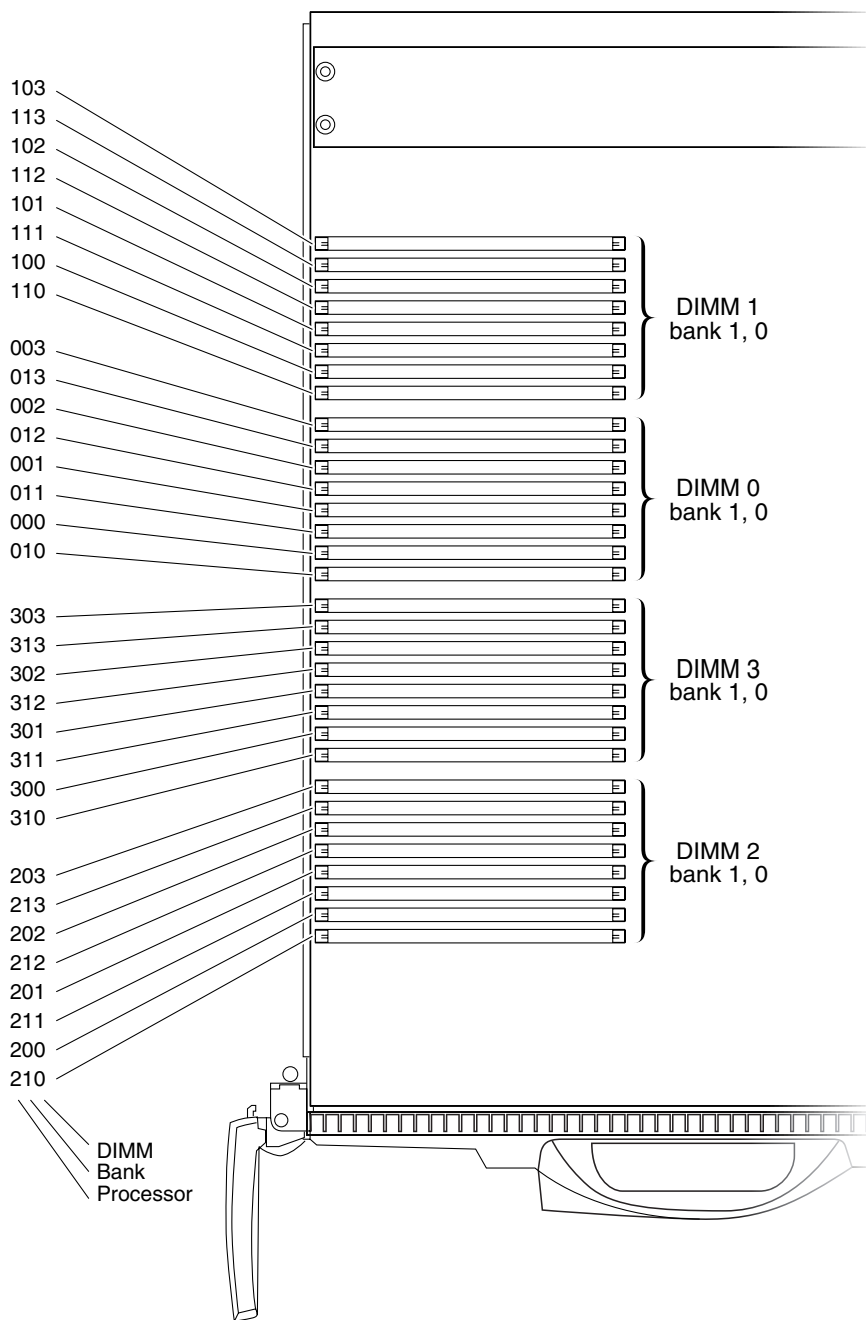

FIGURE 8-3 CPU Board Memory DIMM Locations
3. Locate the slot for the CPU DIMM requiring replacement. DIMM location numbers are shown in FIGURE 8-3.